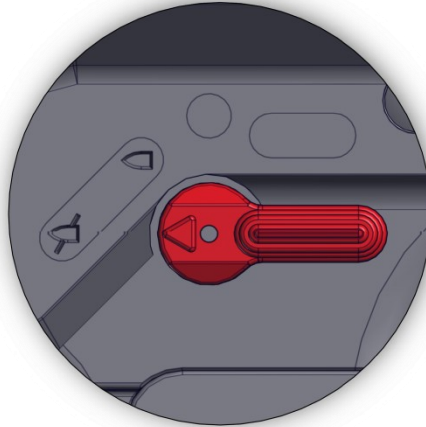

Figure 8-1 - Safety Lever - Safe Mode Position
1. Ensure that the safety lever is in Safe Mode (position ) , as shown in Figure 8-1.